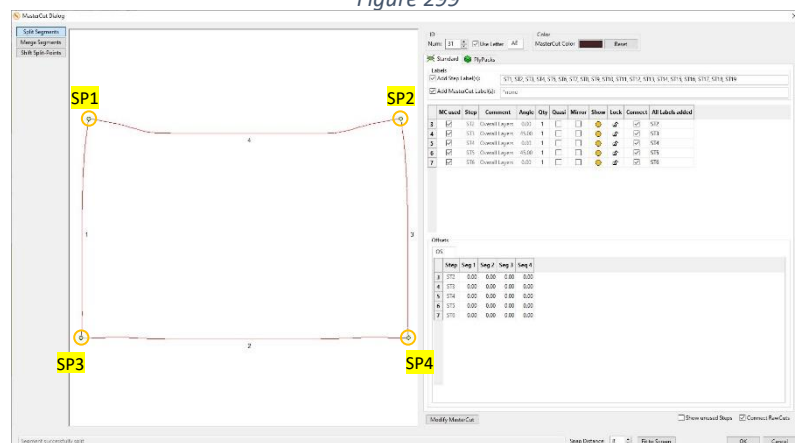

Figure 300
96. ... and for MasterCut AE and split the outer geometry as shown in Figure 300...